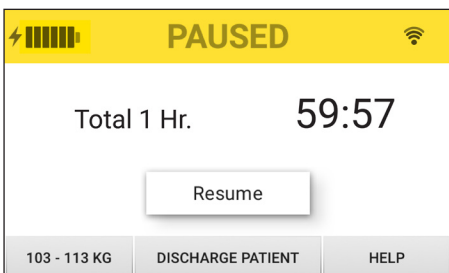

Figure 7. Paused screen
2. A paused screen will display with a yellow status bar and remaining pause time displayed on the right side of the screen. (Fig. 7)